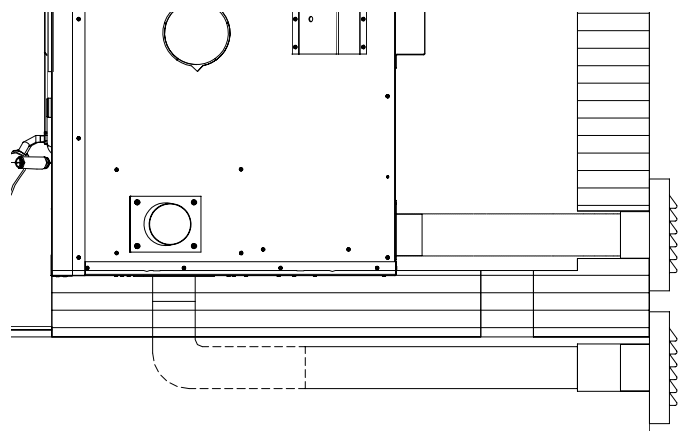

Figure 5
- 5) Secure a 3" insulated flexible conduit (not included) to the stove's adapter and the outside termination with the 2 adjustable straps (included) figure 5, 6 & 7.